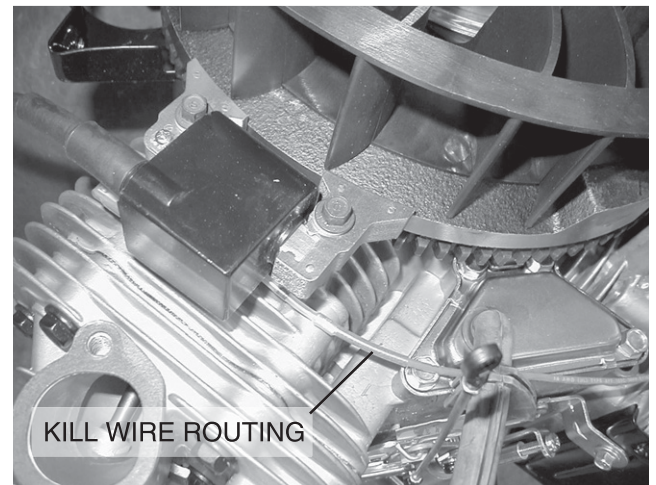

Figure 13-10. Install Coils
4. Assemble ignition coils to engine, Figure 13-10.
Note: The side shown in Figure 13-10 must face up on both coils or the engine will not function properly.